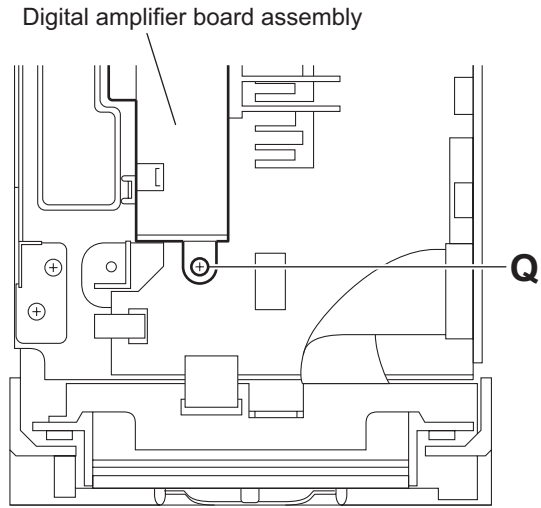

Fig.15
3.1.7 Removing the digital amplifier board assembly (See Figs.15 and 16)
- From the top side of the main body, remove the screw **Q** attaching the digital amplifier board assembly. (See Fig.15.)